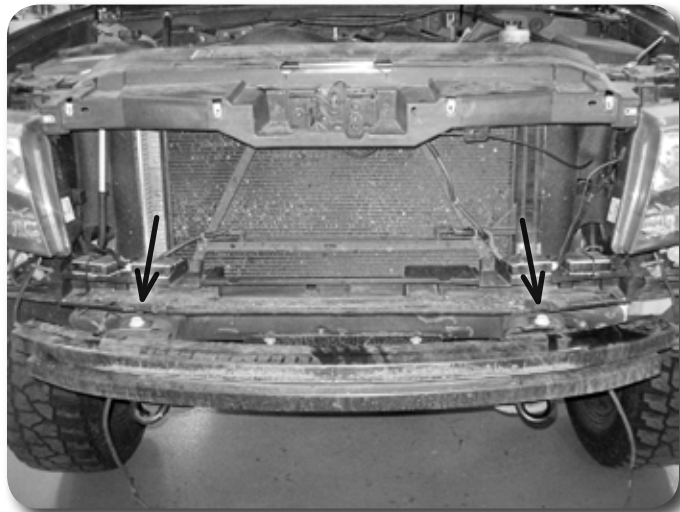

Figure 6
13. Remove 2 bolts indicated that hold the steel bumper to frame rails Figure 6 and remove steel bumper from vehicle.